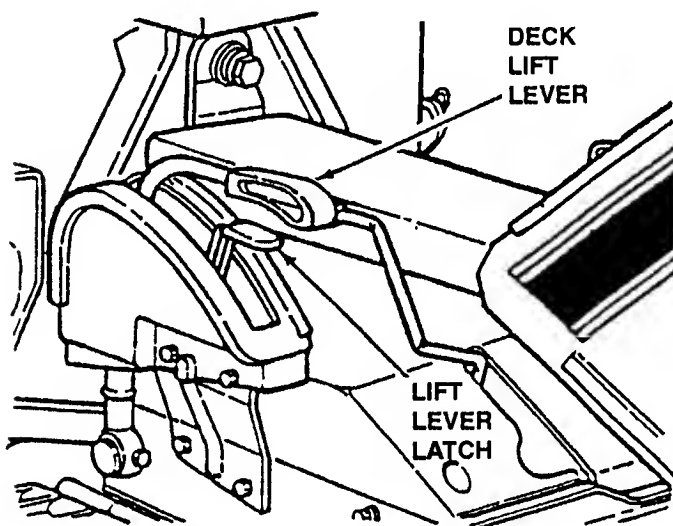

FIGURE 2.16
1. Adjust cutting height as desired to any one of six positions using deck lift lever. When in desired height of cut, release latch, then try to move deck lift lever to ensure lift lever latch is fully engaged. See Figure 2.16.